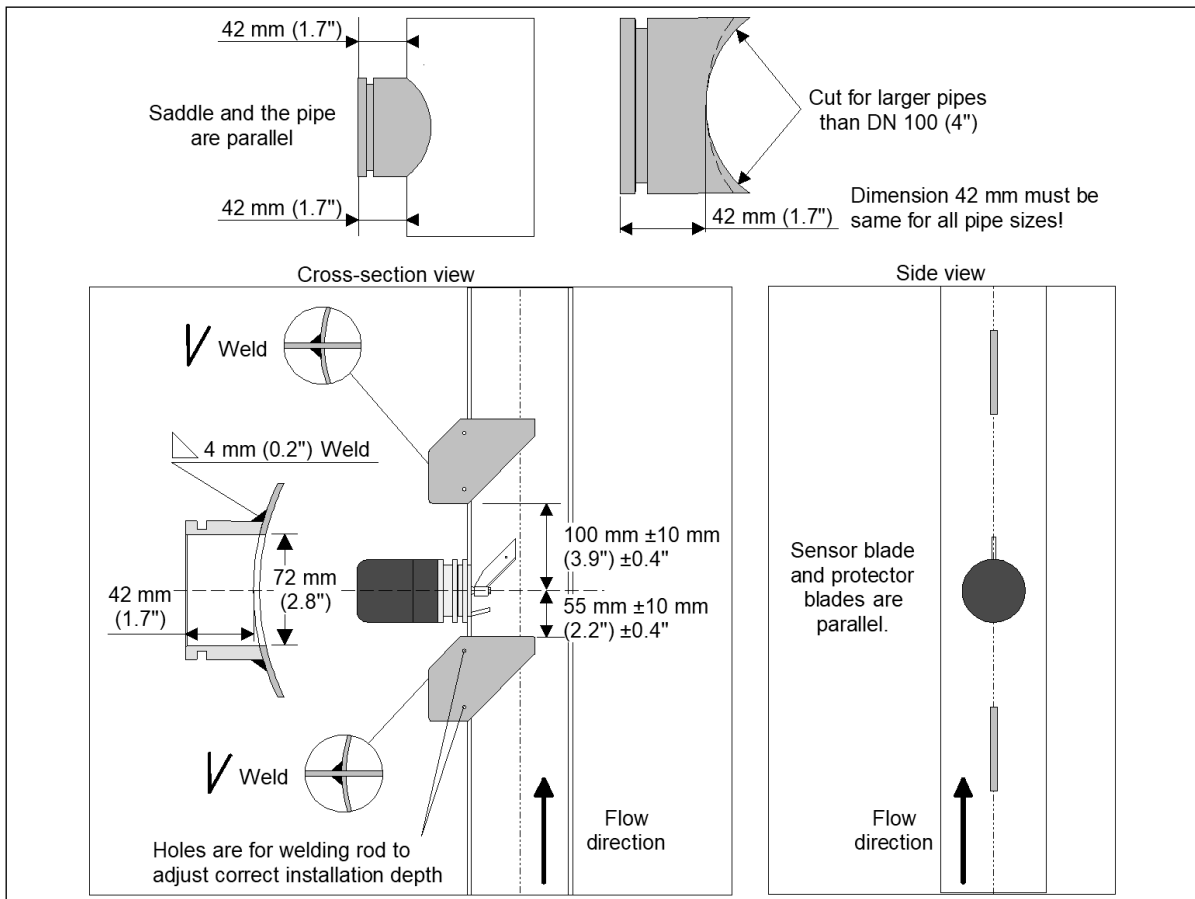

Figure 2.5. Medium consistency MC blade installation. Mounting of the installation saddle and protector blades.
2. Cut a hole in the pipe as shown in figure 2.5. To prevent fiber debris from collecting on the edge of the cut-out, ensure that the edges of the hole inside the pipe are ground smooth. Fiber and or debris collected at this point can interfere the measurement.
Blade transmitters need protector blades (included in delivery) before and after the sensor blade. This is necessary because during shut downs pulp may dry out and dry fiber plugs may form. When the pump is re-started damage to the sensor unit may occur when these plugs start moving in the line. The protector blades protects the sensor unit from mechanical damage from up or downstream flows that come from dewatered pulp, knots and other stream projectiles hitting the blade. The installation of the protector blades are shown in figure 2.5.